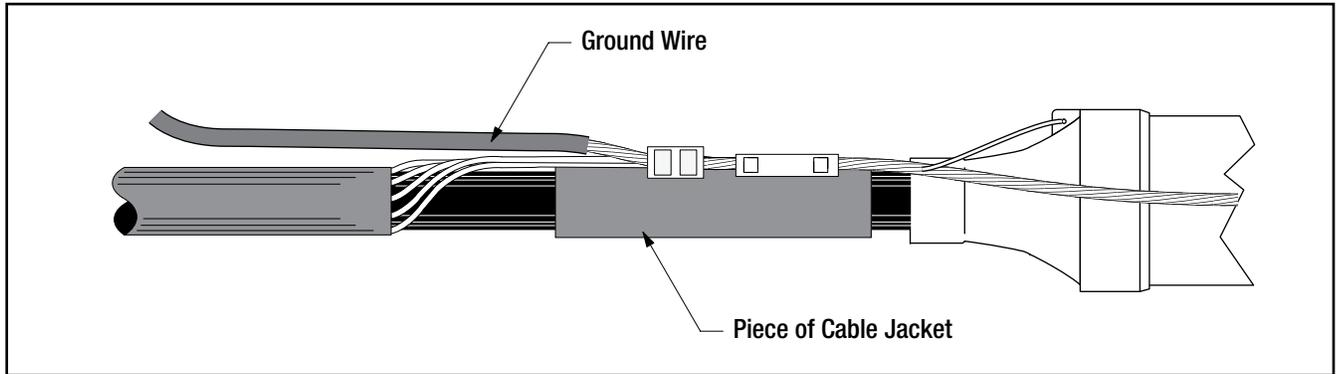

Figure 2
- 2.1 Prepare the cable according to splice manufacturer’s instruction. 3M recommends locating the neutral wire connector beyond one end of the splice body (see Figure 2). If an external ground is required, locate the ground connection off splice body.
- 3.1 Connect a ground wire to the neutrals, in the area where the splice diameter is reduced. To protect the cable semicon, place a piece of cable jacket (removed during the cable preparation) under the ground connector. Ensure that the cable jacket piece does not touch the splice body. Keep connector profile as low as possible. For C-Tap or H-Tap connectors, position flat against the cable. (Figure 2)